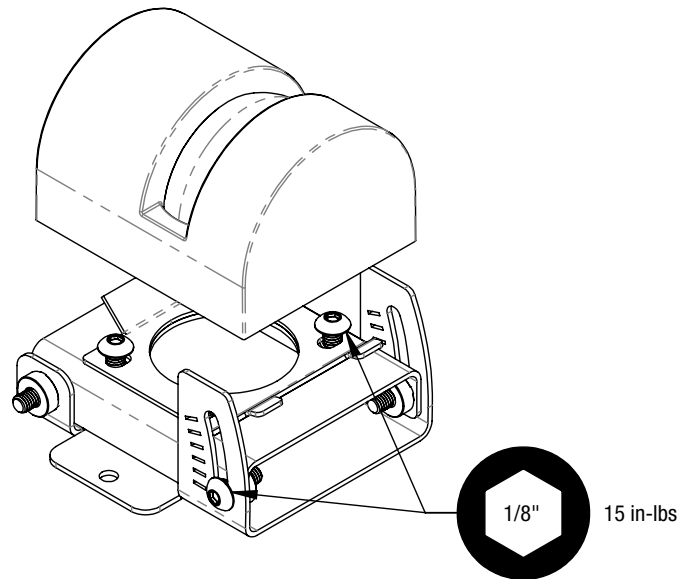

FIG 5
6. Attach the mounting plate to the adjustable bracket via the four 10-32 screws (provided) using a 1/8" hex tool. **FIG 5.**